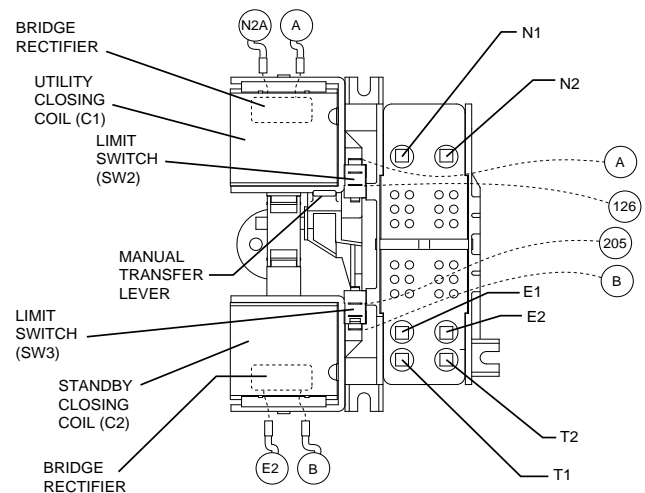

Figure 62. The "V-Type" Transfer Mechanism
See Figure 62. The utility closing coil (C1) utilizes rectified Utility source power to actuate the LOAD contacts to the "Utility" position. When energized, the coil will move the LOAD contacts to an "over center" position. A limit switch opens the circuit and the spring force will complete the transfer to "Standby". The bridge rectifier, which changes the Utility source alternating current (AC) to direct current (DC), is sealed in the coil wrappings. If either the coil or the bridge rectifier replacement becomes necessary replace the coil assembly.